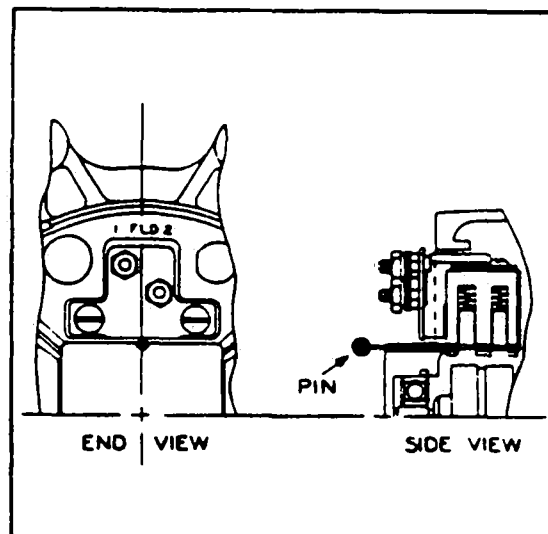

Figure 11-33. Brush Installation
- c. **Brushes:** These units have a separate brush holder assembly that is installed after the alternator has been assembled. The brush holder has a small hole that intersects the brush cavities. Use a pin or a piece of wire as shown in Figure 11-33, to hold the brushes in the holder during assembly. Remove the pin after the brush holder retaining screws have been tightened. Make a continuity check to be sure the brushes are seated against the slip rings.